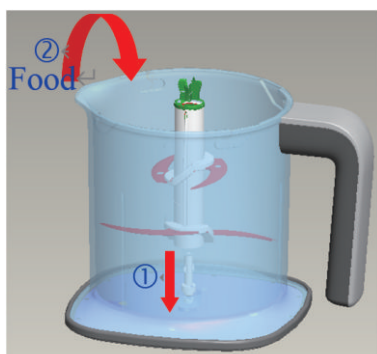

Fig. 4
- Before you putting the food into the chopper bowl, you must insert chopper blade into chopper bowl. (Fig 4)